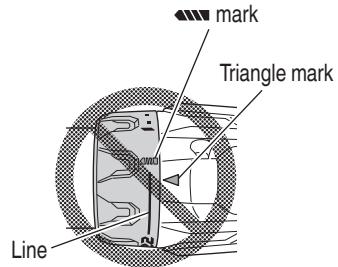

Fig. 12
- Do not use with the clutch dial set at the line between the number “22” and the drill mark “”. Doing so may cause damage (See Fig. 12).